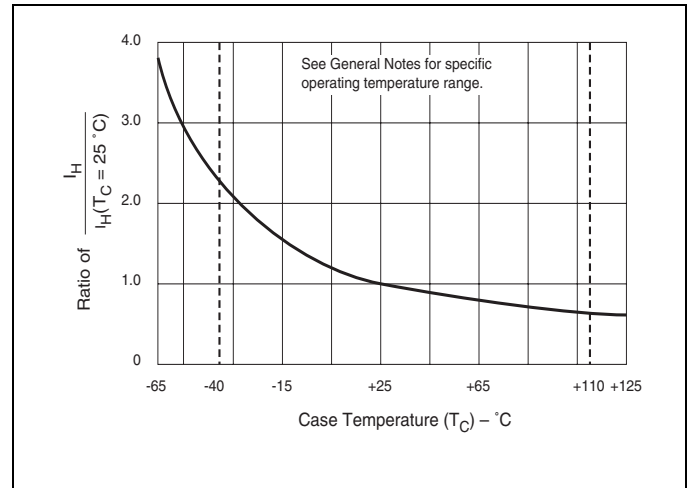

Figure E5.13 Normalized DC Holding Current versus Case Temperature
- (5) See Figure E5.13 for I_H versus T_C or T_L.